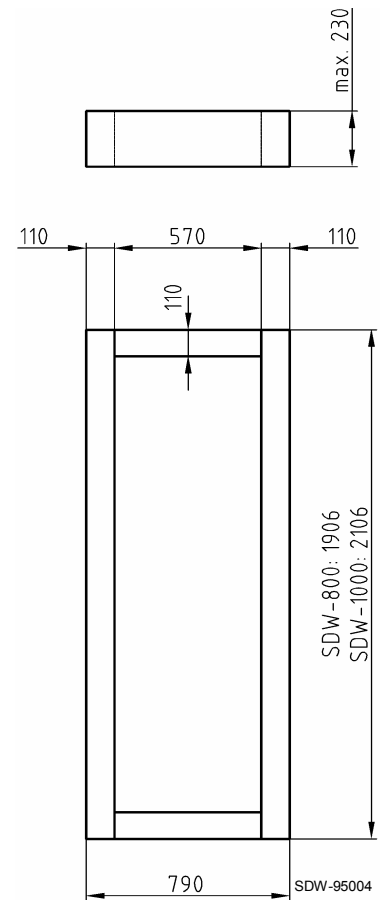

Fig. 4.2: Hard wood support (option)
- be placed on a concrete base, hard wood or metal frame as a support (option), see Fig. 4.2.
- Put the hard wood support (optional) below the pedestal supports, see Fig. 4.2.